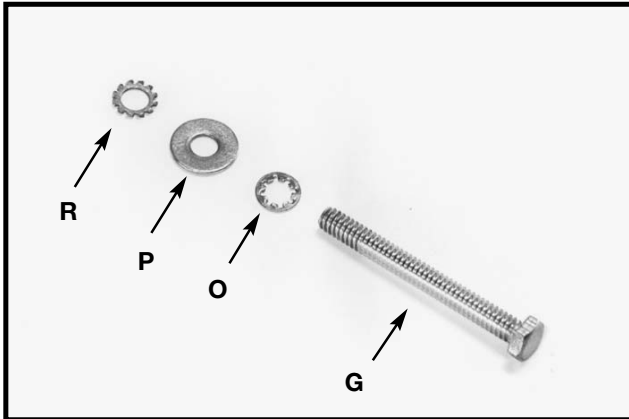

Fig. 10
3. Locate the 1/4-20x2" hex head screw (G) Fig. 10. Place the 1/4" internal tooth lockwasher (O) M6.4 flat washer (P) and the 1/4" external tooth lockwasher (R) on the screw (G).